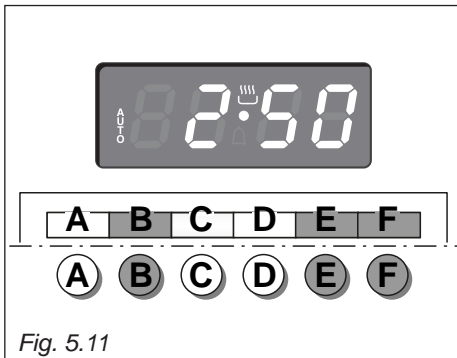

Fig. 5.11
1. Set the length of the cooking period by pushing the “B” button and the “F” button to increase or “E” to decrease if you have passed the desired time (fig. 5.11). The **AUTO** and the  symbol will illuminate.